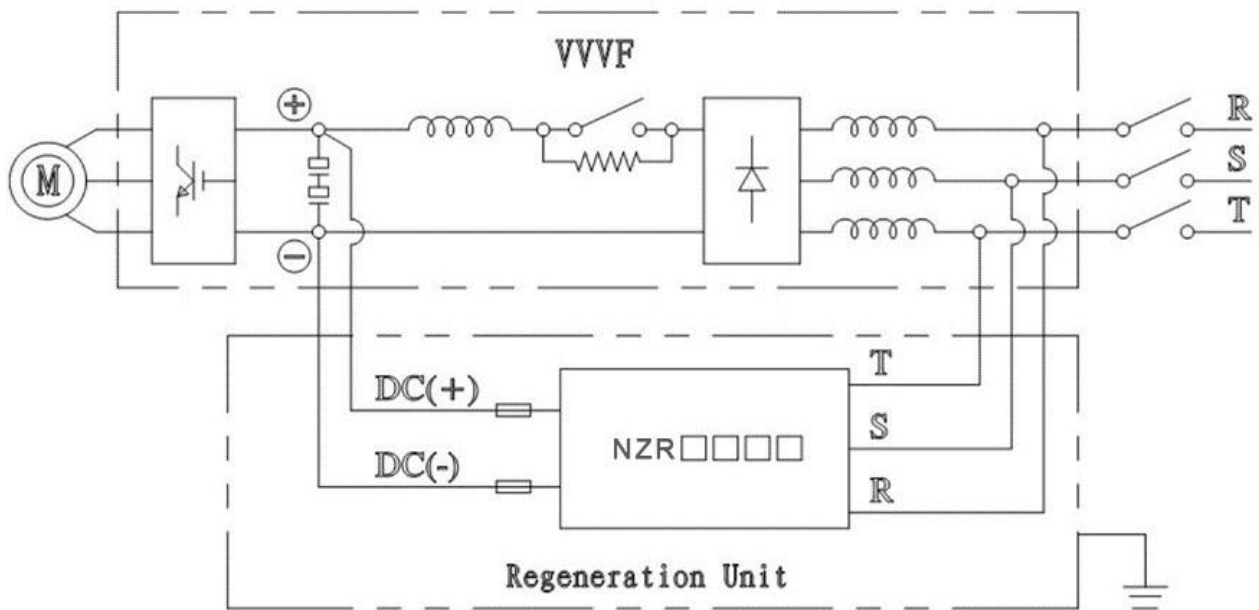
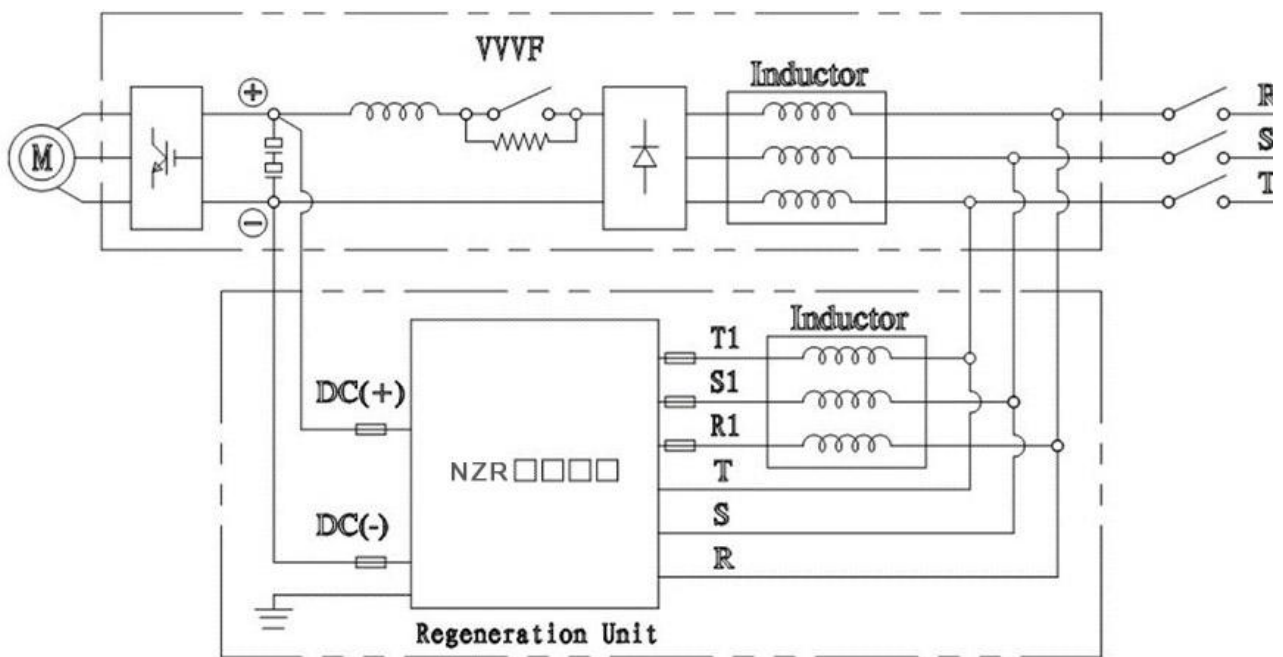

Figure 4-3 C1、C2、C3、C4 Type Chassis energy feedback device and inverter main circuit wiring schematic
Figure 4-4 C5, C6 case is energy feedback unit and inverter main circuit wiring principle diagram
R, S, T	3 phase power supply's terminals of Sync signal, See Figure 4-4 for connection method
R1, S1, T1	3 phase output reactor terminal. See Figure 4-4 for connection method
2.Wiring principle diagram of energy feedback device and inverter main circuit ,Refer to Figure 4-3 and Figure 4-4
1, NZR sine wave energy feedback device has a control board inside, and its control terminal is shown in figure 4-3.